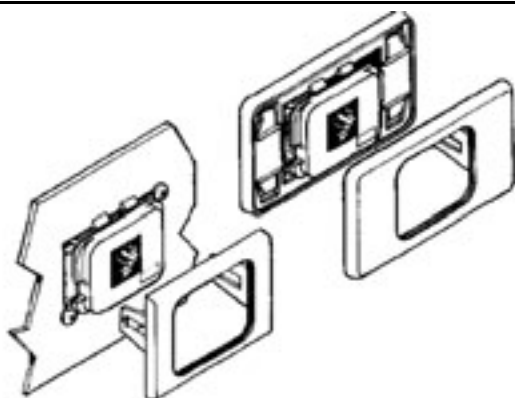

Figure 11
2. If installing the faceplate kit, align and press the faceplate onto the FRONT of the housing. See Figure 11.